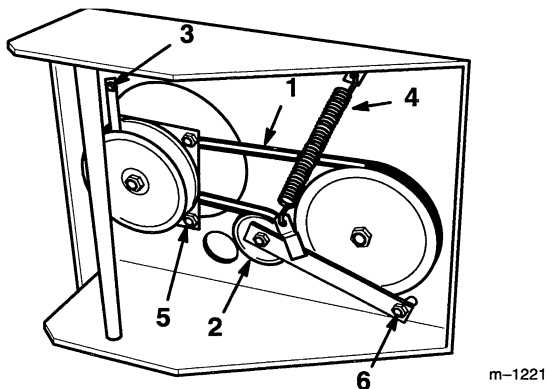

Figure 29
3. Remove left front engine mounting bolt securing clutch retainer to frame (Fig. 29). Unhook retainer from clutch and remove retainer.
4. Unhook tension spring from side of frame (Fig. 29).
7. Torque pivot bolt to 35-40 ft. lb. (47-54 N.m). Install tension spring between idler arm and frame bracket (Fig. 29).